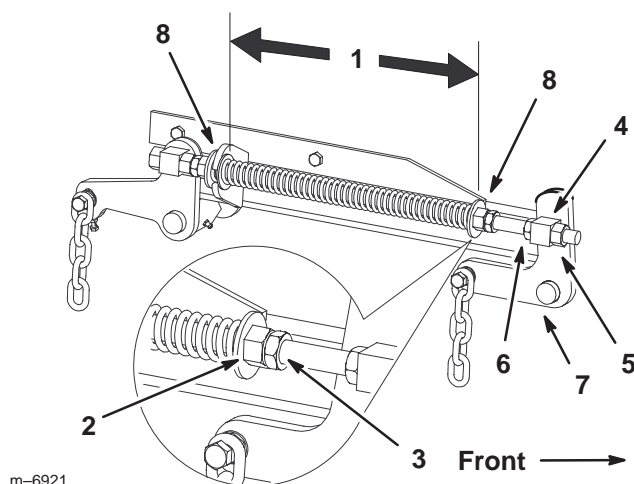

Figure 55
7. Loosen the front swivel jam nuts, at the front of the right and left swivels, approximately a 1/2 inch (13 mm) (Fig. 55).
8. Adjust the lift nuts on both the left and the right side of the machine to achieve **1/4 to 3/8 inch (6 to 10 mm) lower in front at A than in the rear at B** (Fig. 55).
1. Raise the mower lift lever to the transport position (Fig. 55).
2. Check the distance between the two large washers, it needs to be 10–1/4 inches (260 mm) (Fig. 55).
3. Adjust this distance, by loosening the spring jam nut and turning the nut in front of each spring (Fig. 55). Turning the nut clockwise will shorten the spring; counter-clockwise will lengthen the spring.
4. Lock the nut into position by tightening the spring jam nut (Fig. 55).